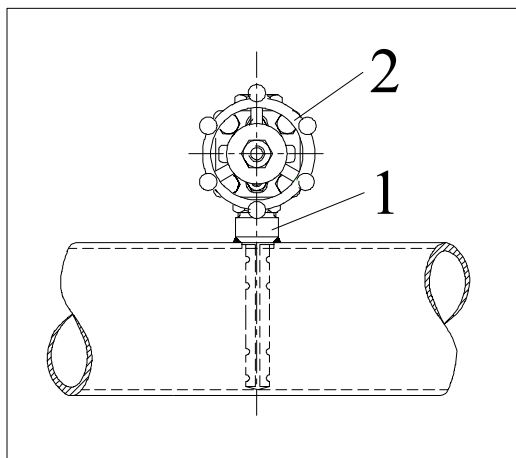

Fig. 9: Mounting stud with isolating valve
3. Tack the mounting stud {1} (supplied with the Flo-Tap) onto the pipe leaving a clearance of 1-2 mm (Fig. 9).
5. Fasten unit isolating valve {2} to the mounting stud {1} and open valve. (Fig. 9).
12. Install the threaded stud {5} on the isolating valve {2} (Fig. 9 and 11).